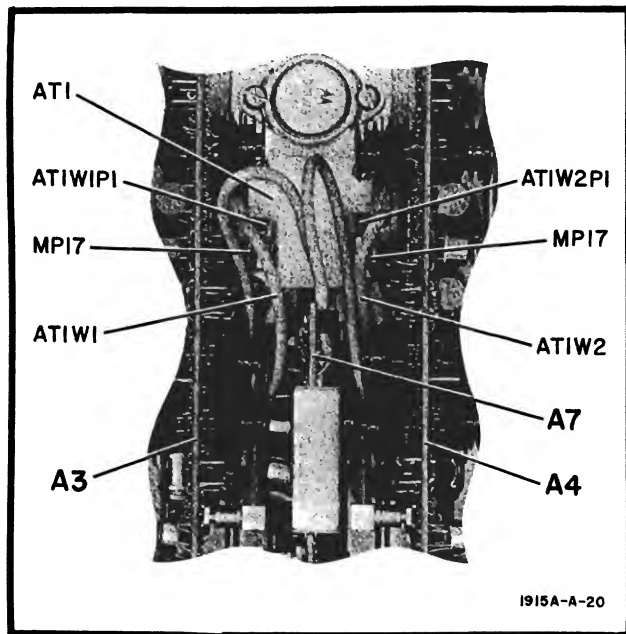

Figure 3-3. Internal Termination Cable Storage
3-23. POSITIVE HIGH-Z SOURCE CONVERSION. The positive output termination (AT1R1A) is connected to the positive circuit board (A4) through coaxial cable AT1W1 (see Figure 3-3) to snap-on jack A4J2 located on the back side of circuit board A4 (see Figure 8-19 for the location of A4J2). To convert the positive output circuit board to a high-Z source, proceed as follows:
g. Store plug AT1W1P1 (on end of coaxial cable AT1W1) by snapping barrel portion of plug into fuse clip MP17 mounted on top of internal termination assembly AT1. (Figure 3-3 shows the plug in the stored position.)
3-25. **NEGATIVE HIGH-Z SOURCE CONVERSION.** The negative output termination (AT1R1B) is connected similar to the positive output termination (AT1R1A). Negative output termination AT1R1B is connected to the negative output circuit board (A3) through coaxial cable AT1W2 (see Figure 3-3) to snap-on jack A3J2 located on
g. Store plug AT1W2P1 (on end of coaxial cable AT1W2) by snapping barrel portion of plug into fuse clip MP17 mounted on top of internal termination assembly AT1. (Figure 3-3 shows the plug in the stored position.)